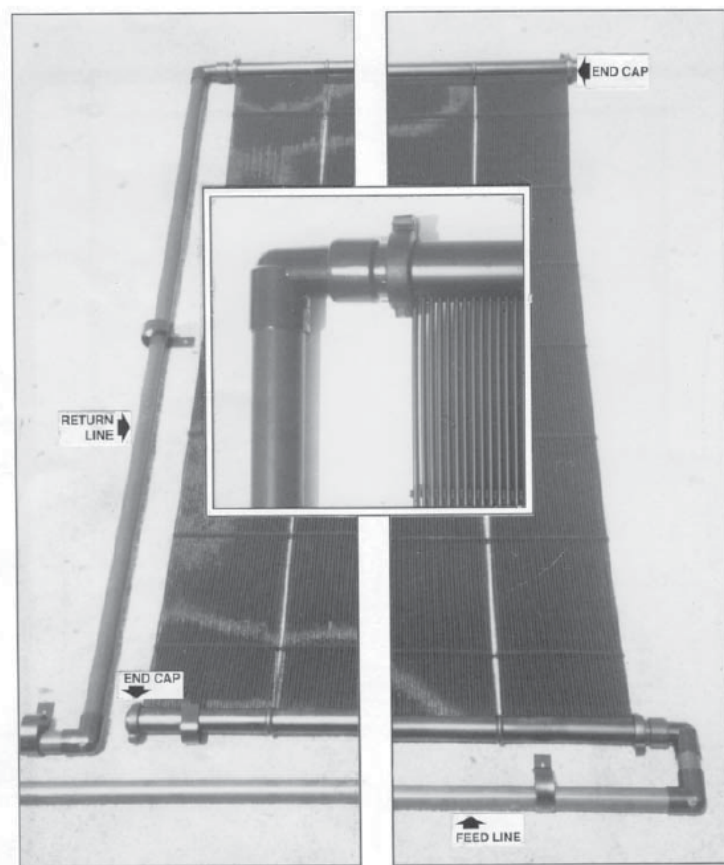

Fig. 12.1
1. Cement the appropriate size PVC 90-degree elbow to the return line stub facing down toward the bottom header. Repeat the process for the feed line header stub and face the elbow down away from the array. (see Fig. 12.1, page 23).